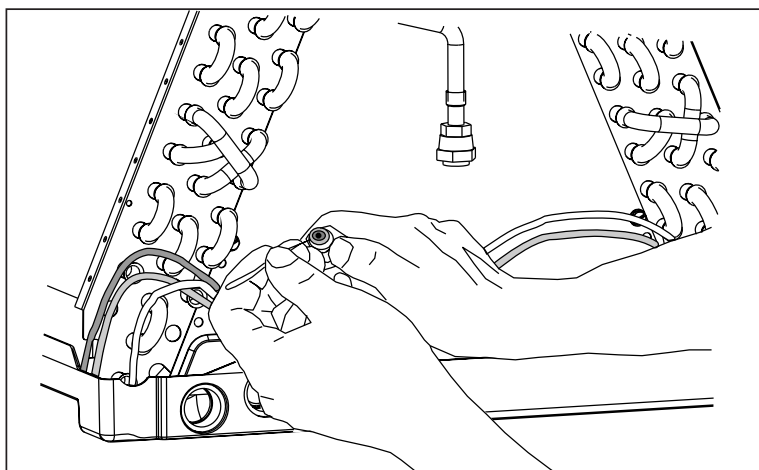

Figure 4. Removal of Orifice
- fice out of the body. (See Figure 4) Remove the orifice being careful not to scratch either part.